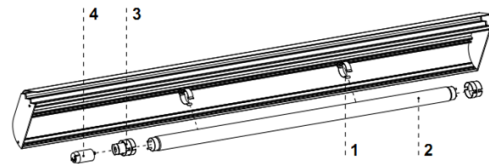

Fig.10 Changing the fluorescent lamp
- Turn on the main switch Fig.10/1 (p.8), which activates the temperature regulator, and then aggregate of the device